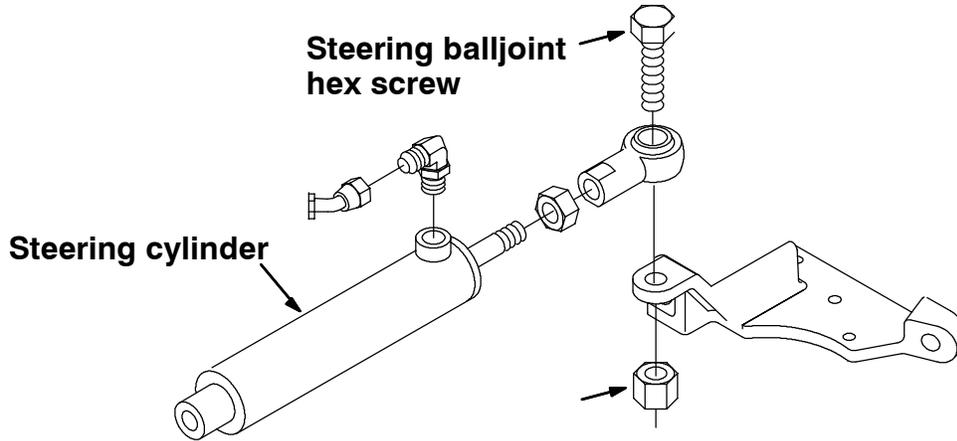

FIG. 10 - Steering Cylinder Mounting Hardware
13. Install the hydraulic cylinder ball joint on the new steering casting. Torque the hex screw to 290 - 380 Nm (215 - 280 ft lb). (Refer to FIG. 10)